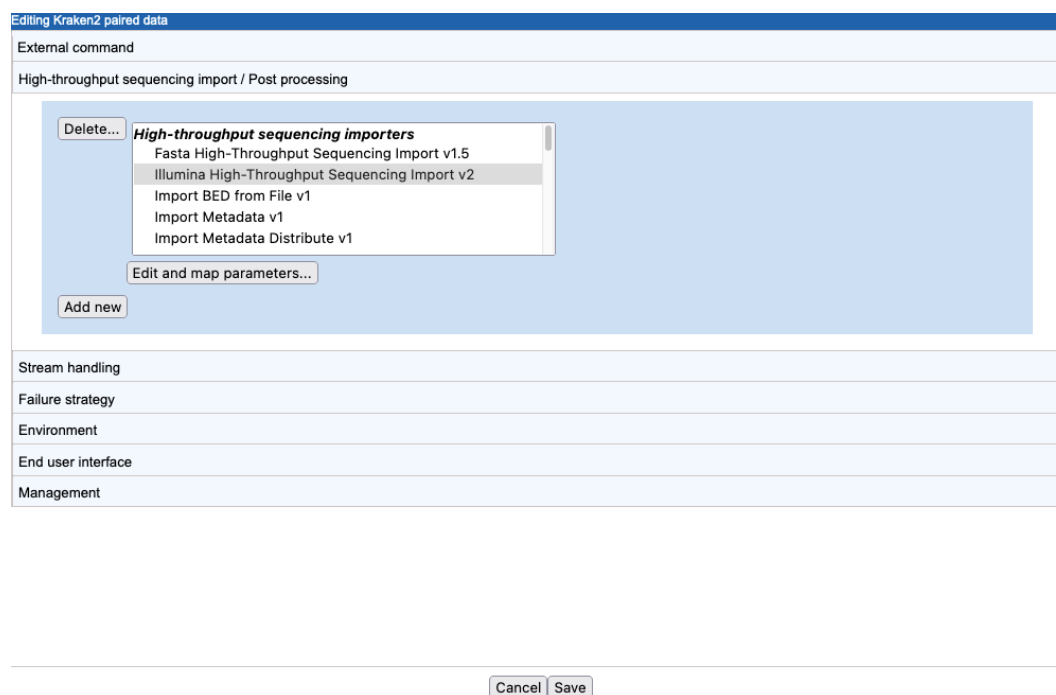

Figure 15.40: A new import/post processing element has been created, and the Illumina high-throughput sequencing importer has been selected.
3. Click on **Add new** and select an importer. Here, we select the Illumina importer (figure 15.40).